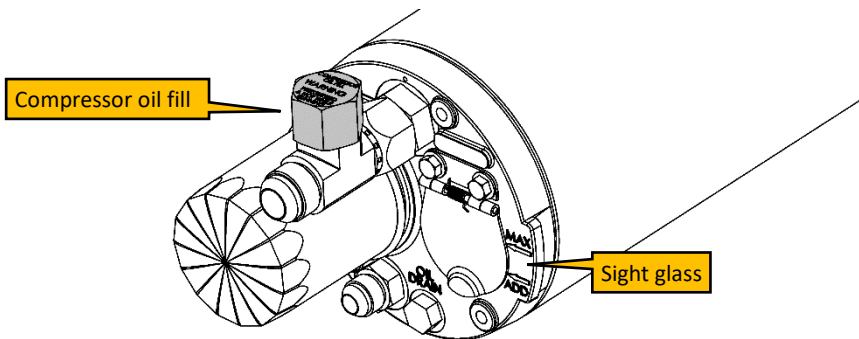

Figure 10 - Compressor Oil Fill
- Remove the fill cap on the AOST (above the sight glass) (Figure 10), or on the compressor inlet.
- Using a funnel, pour 4L oil into the tank and run the unit. Let the system cool down (~10 minutes), check the oil level using the sight glass. If required, add another 1/2L of oil and run the unit again. Repeat until the oil level in the sight glass reaches the “MAX” line. The system capacity is 4-6 L depending on hose lengths (Figure 10).